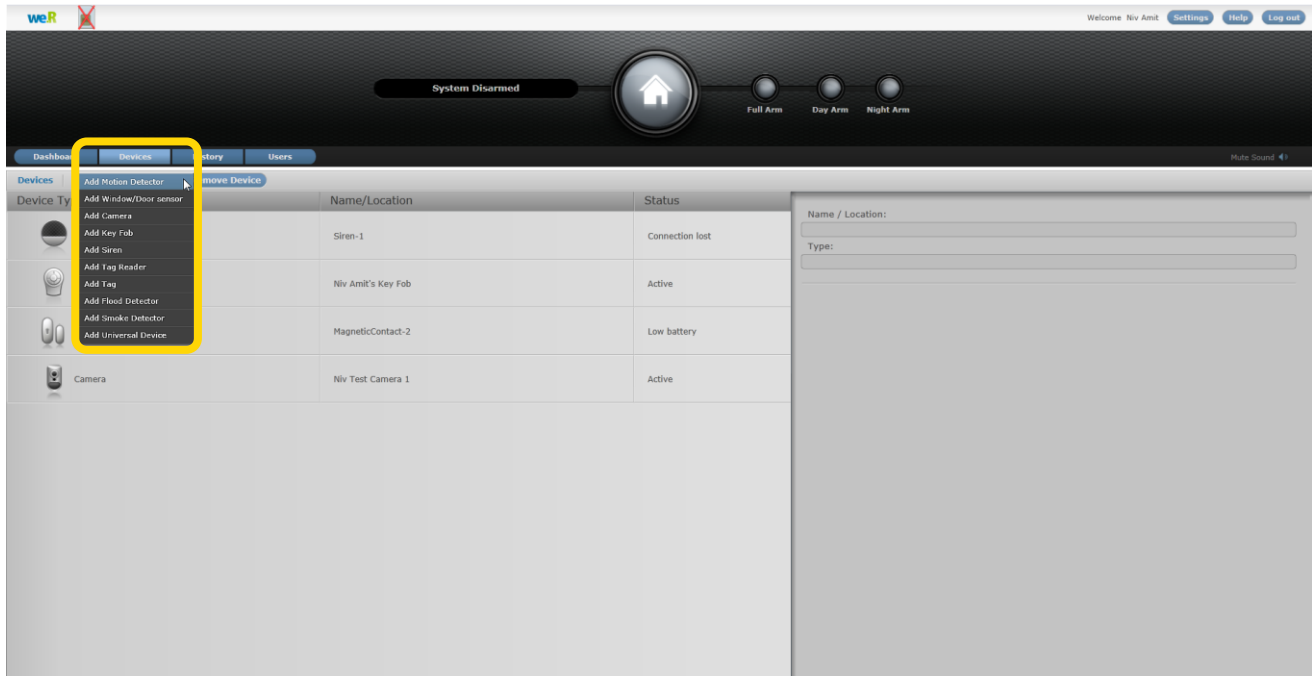

Figure 73: Add Motion Detector Device Utilizing Web Application
1. Prepare the two (2) AA-size Alkaline batteries required to power the Motion Detector.
5. Click over the **Add Motion Detector** option of the menu as illustrated in Figure 73 above: